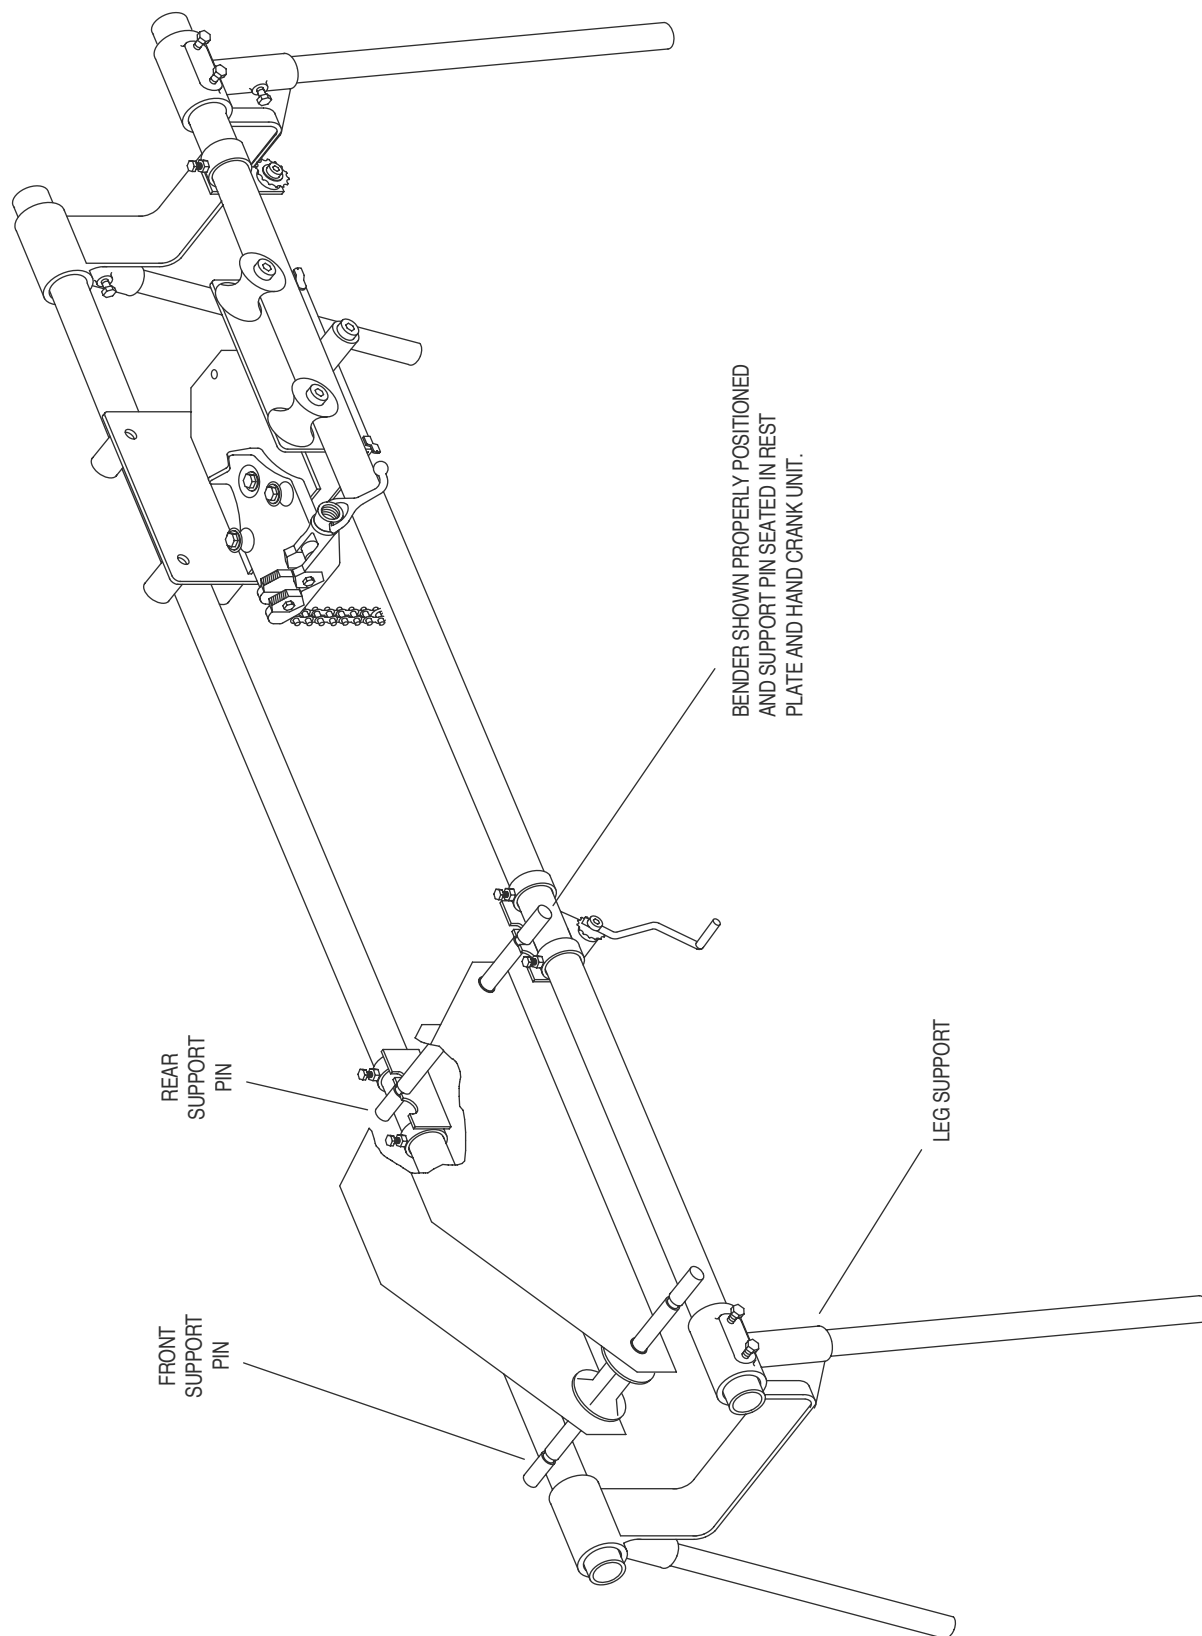

FIGURE 7
3. Lift bender and set on table as shown with one (front) support pin about 1" from leg support. See figure 7. Next, move the hand crank unit and the rest plate so that the rear support pin sits in the matching slot of the hand crank unit and the rest plate. The wide groove on each side of the support pin should "sit" in the rest plate and the hand crank unit. See figure 7. Tighten all bolts on the hand crank unit and the rest plate.